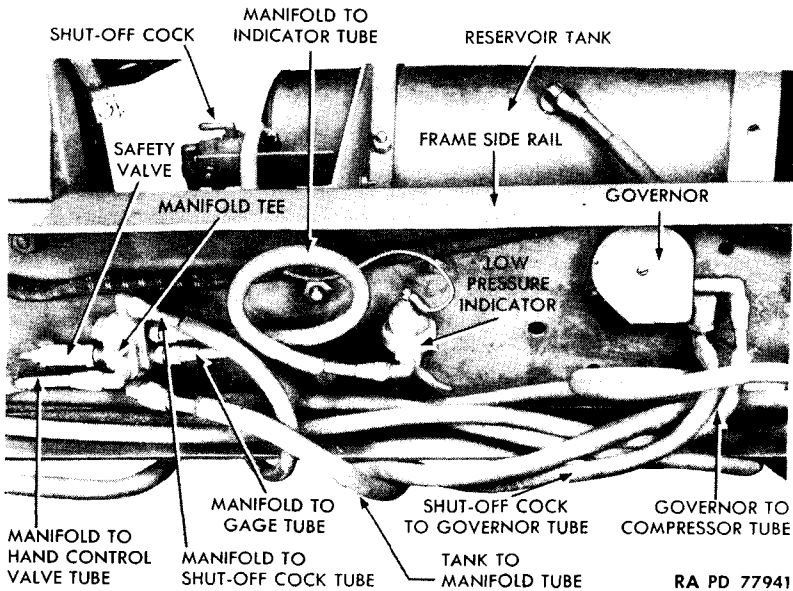

Figure 65 – Brake Air System Components
(1) DESCRIPTION (figs. 65 and 63). The governor is located on inside of main frame right-hand side rail approximately even with front edge of frame platform, and can be reached from under the truck. Two lines connect to it, one leading to the compressor, and the other to the manifold, by way of a shut-off cock in front of the two reservoir tanks. The governor controls pressure of the air system by opening unloader valves in the compressor, when a pressure of 105 pounds is reached and closing them when a minimum pressure of 85 pounds is reached. Pressure from the air reservoir tanks, routed through the manifold, operates the governor.
(1) DISCONNECT TUBING (fig. 65). Screw shut-off cock to governor tube from governor. Unscrew governor to compressor tube from governor.
(2) **DETACH GOVERNOR FROM FRAME** (fig. 65). Remove the two nuts, lock washers, and bolts which attach governor to frame. Lift governor from frame.
(1) **ATTACH GOVERNOR TO FRAME** (fig. 65). Place governor in position on frame, and install the two bolts, lock washers, and nuts which attach governor to frame.
(2) **CONNECT TUBING** (fig. 65). Screw governor to compressor tube nut onto upper fitting on governor, and screw shut-off cock to governor tube nut onto strainer cap.
(1) **DESCRIPTION** (fig. 65). A safety valve is screwed into one of the openings on the manifold tee, to protect the air system against damage from excessive pressure in case of pressure control system failure. A coil spring holds a ball valve on its seat, and an adjustable spring seat regulates spring tension.
b. Removal (fig. 65). Open drain cock (fig. 37) on reservoir tank, working from under truck. Unscrew valve from manifold tee.
c. Installation (fig. 65). Screw valve into its opening on manifold tee, and close drain cock (fig. 37) on bottom of reservoir tank.